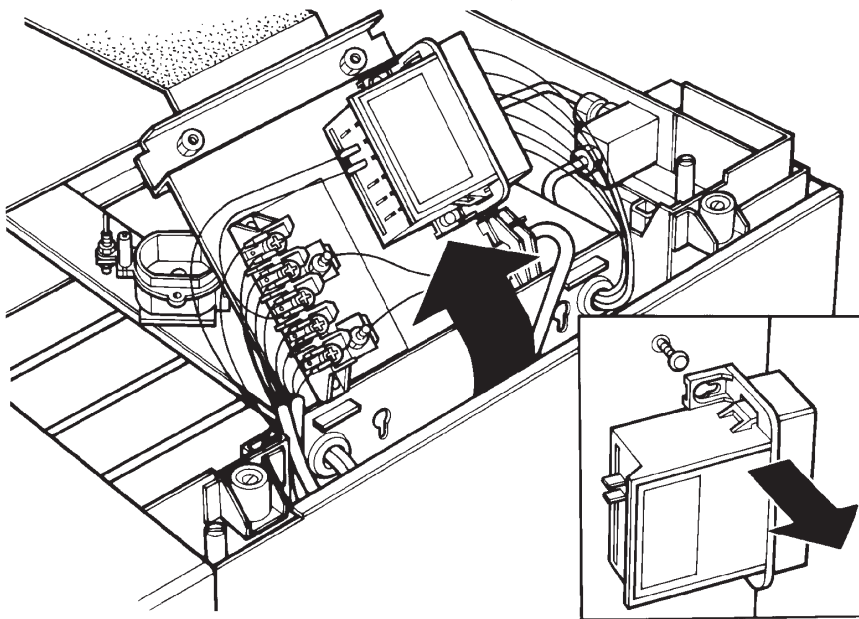

Fig. 38
3. Slacken electric panel fixing screws (2). (See Fig. 38).